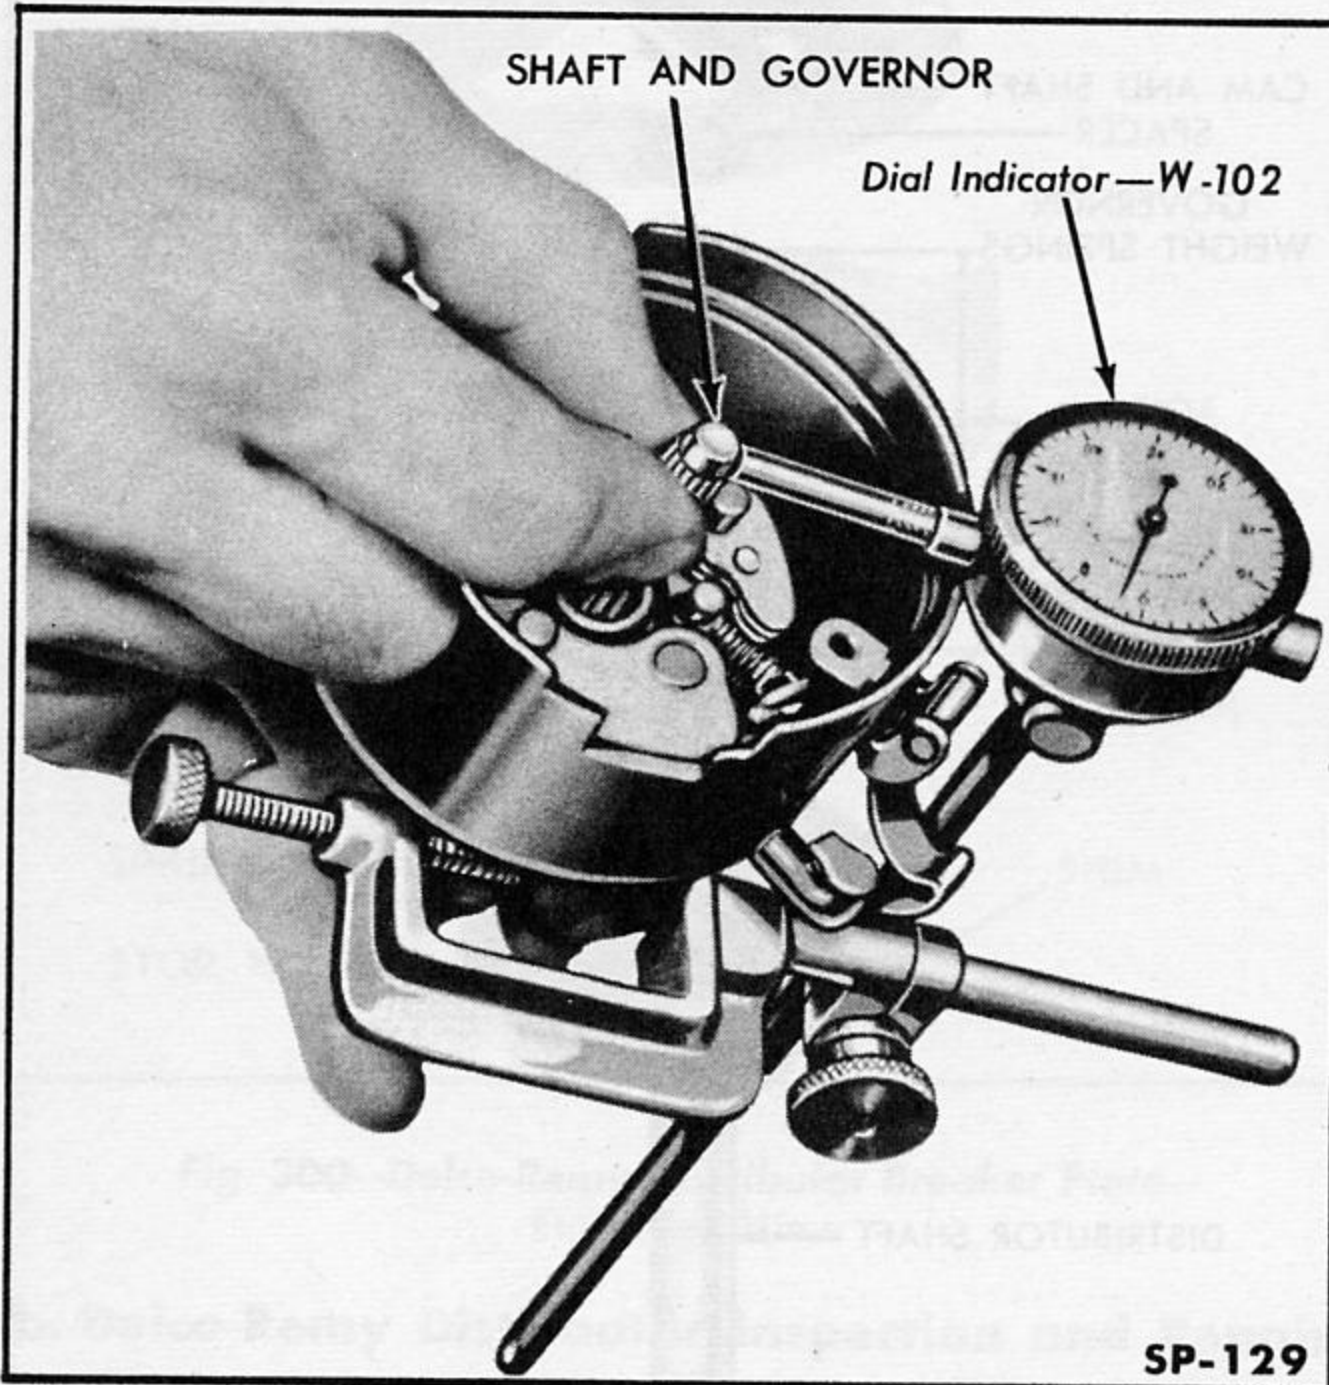

Fig. 303—Checking Auto-Lite Distributor Shaft Side Play
4. Replace the distributor base or housing if cracked or damaged. Check the fit of the distributor shaft in its bushings. Fig. 303 illustrates the use of a dial gauge to measure the amount of radial play. If the play is more than .005 inch remove shaft and replace the bushings. If the wear has reduced the shaft diameter more than .001 inch, replace the shaft also.